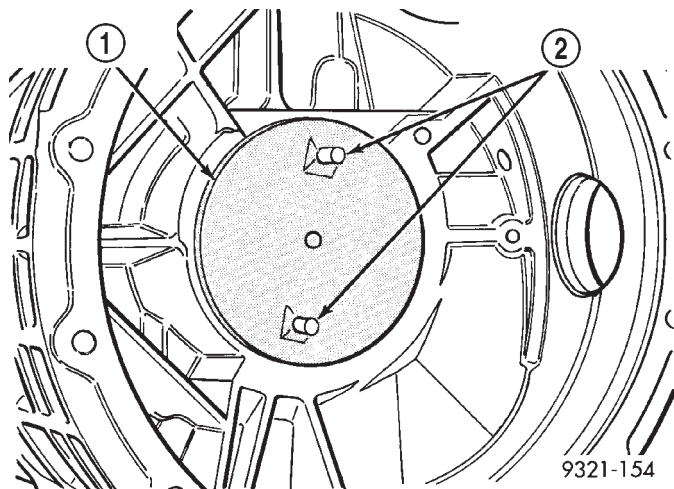

Fig. 390 Installing Centering Block
(2) Install centering block (special tool 6549-2) into the transaxle case (Fig. 390). Screw centering block into inner adjuster hole of case until it bottoms. The pegs on the special tool are only used for installation. Orientation with in the case is not required.